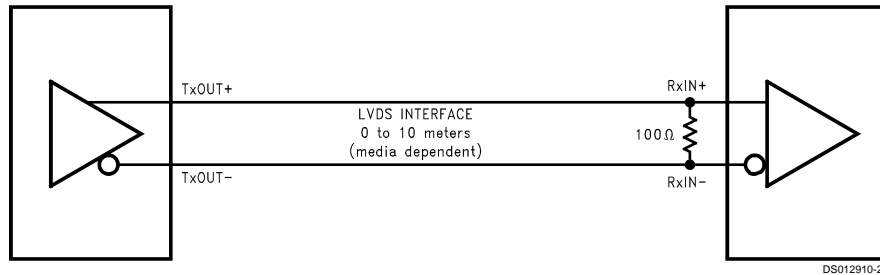

FIGURE 19. LVDS Serialized Link Termination
**TERMINATION:** Use of current mode drivers requires a terminating resistor across the receiver inputs. The CHANNEL LINK chipset will normally require a single 100Ω resistor between the true and complement lines on each differential pair of the receiver input. The actual value of the termination resistor should be selected to match the differential mode characteristic impedance (90Ω to 120Ω typical) of the cable. *Figure 19* shows an example. No additional pull-up or pull-down resistors are necessary as with some other differential technologies such as PECL. Surface mount resistors are recommended to avoid the additional inductance that ac-